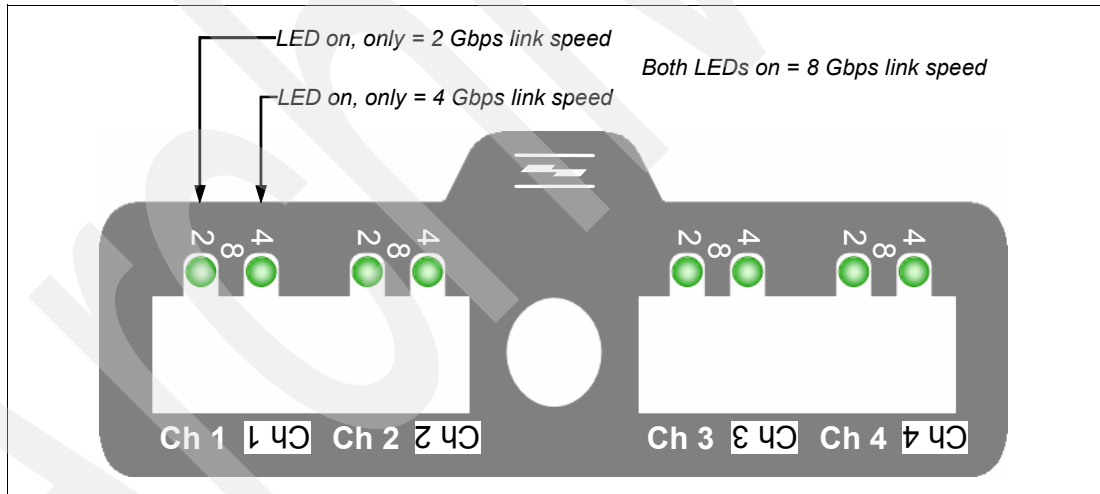

Figure 3-23 8 Gbps faceplate design
- ▶ Figure 3-23 describes the LEDs for a 8 Gbps HIC.